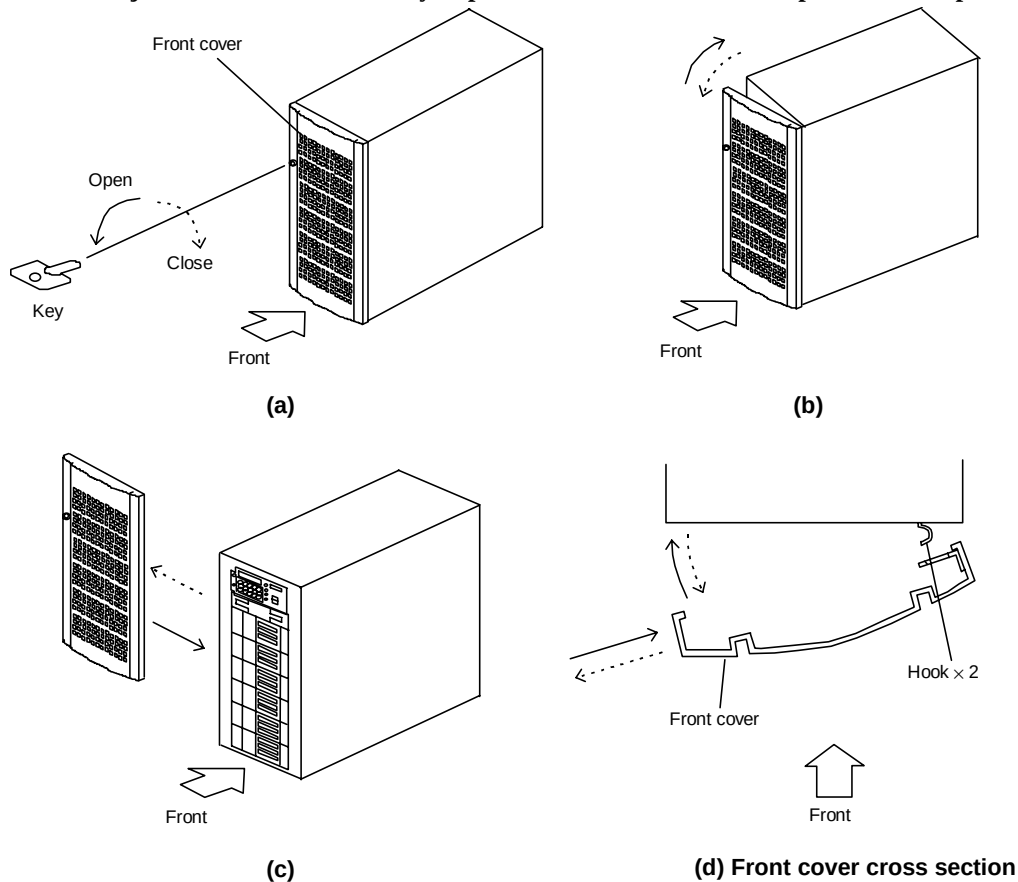

Figure 1 Remove the Front Cover
- ① Insert the key supplied with the subsystem into the keyhole and release the lock of the front cover. (See Figure 1 (a).)
- ② Pull the left side of the front cover and turn it in the direction shown by an arrow (···➤). (See Figure 1 (b).)
Notice : (See Figure 1 (d).)
- ③ Hold the front cover by hands and remove it by moving it in the direction shown by an arrow (···➤). (See Figure 1 (c).)